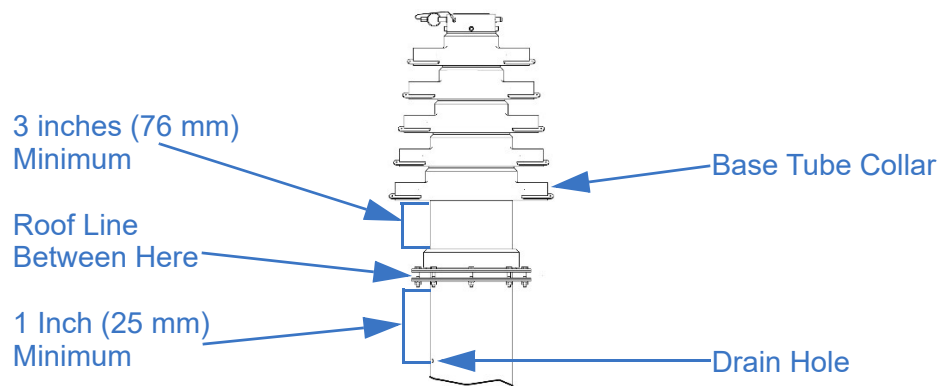

Figure 5-4 Roof Line Location (Not to Scale)
- The mounting area must have sufficient room to mount the mast system. The roof area must be as flat as possible at the location of the mast. The roofline must lie between the drain hole and base tube collar. Mounting hardware must be at least 1 inch (25 mm) above the drain hole, and at least 3 inches (76 mm) below the base tube collar (Figure 5-4). The exact dimensions of the mast system will vary based on the components included. Refer to Section 4.8 for dimension information.